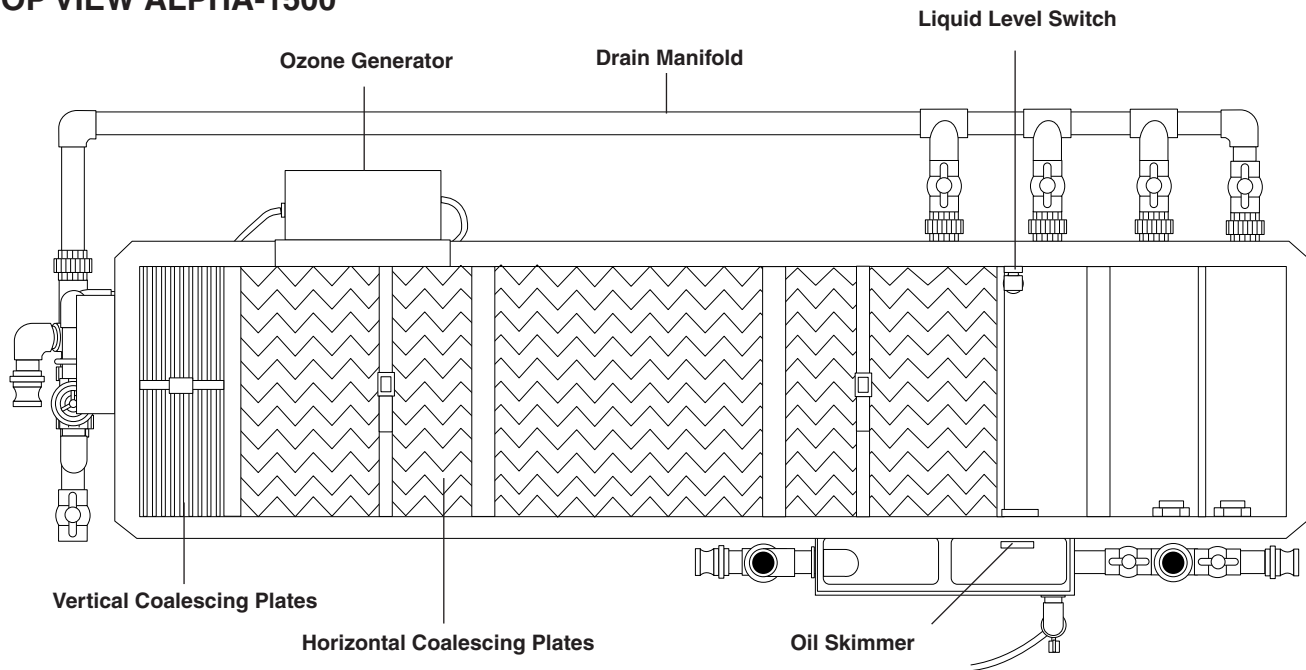

Figure 5
Check the overflow shutoff switch by manually lifting the liquid level switch (see Figures 5 & 6).
- Remove the vertical coalescing pack (see Figures 5 & 6 for location). To remove, lift with the nylon strap that surrounds the coalescing pack.